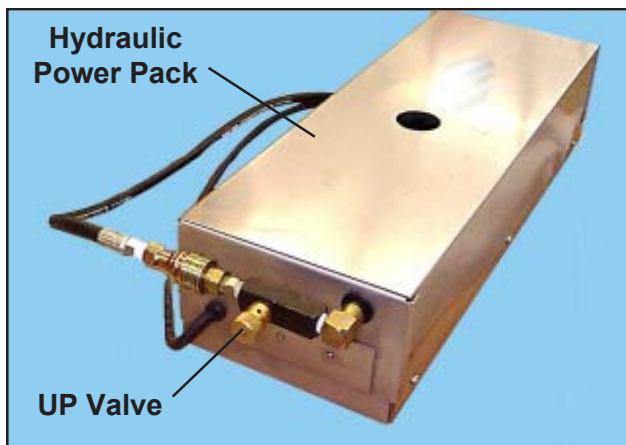

Figure 25. UP Valve
2. Locate the **UP** valve on the hydraulic power pack (Figure 25).